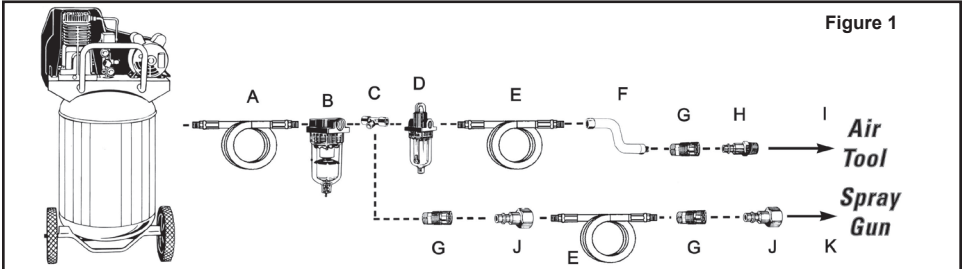

Figure 1
1. As a standard practice, drain water from the air compressor tank and air lines prior to use each day (reference your compressor operators manual for detailed instructions). **NOTE: Failure to install appropriate water/oil removal equipment may result in damage to the spray gun or workpiece (see Figure 1).**